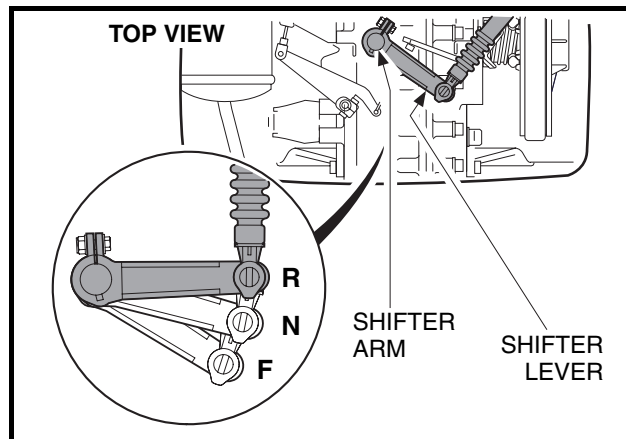

Figure 16-56 Forward/Reverse Positions
For major adjustments, the cable retaining nuts (28) must be loosened and adjusted. When the cable is properly adjusted, with the Forward/Reverse handle (20) (**Figure 16-56, Page 16-24**) in the NEUTRAL position, the shift lever of the transaxle will also be in the NEUTRAL position (**Figure 16-56, Page 16-24**). Retighten nuts at the Forward/Reverse assembly to 43 in-lb (4.9 N·m).